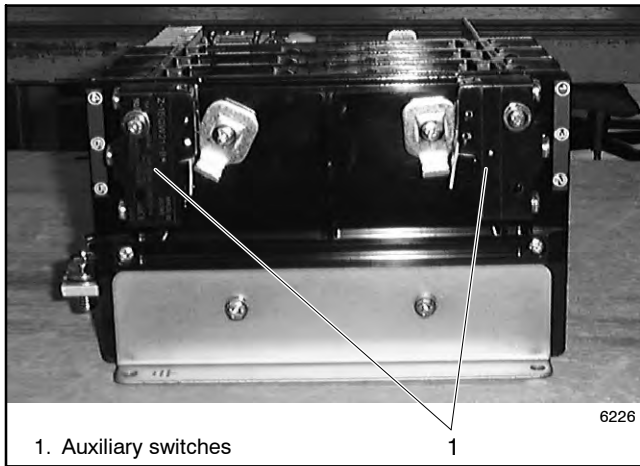

Figure 7-3 Auxiliary Switches
3. Remove the auxiliary switches. See Figure 7-3.